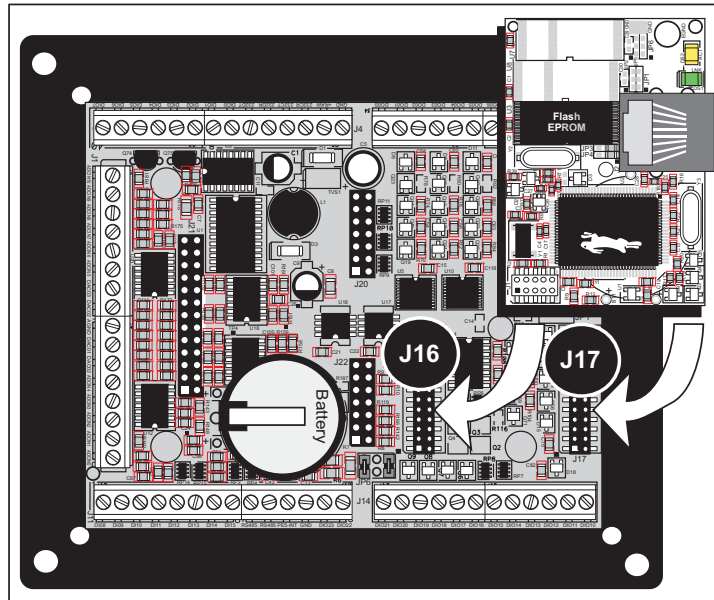

Figure 4. Reconnect RabbitCore Module to BL2100 Main Board
3. Reconnect the RabbitCore module to headers J16 and J17 on the BL2100 main board it was removed from earlier as shown in Figure 4. Be careful to align the pins over the headers, and do not bend them as you press down to mate the module with the BL2100 main board.